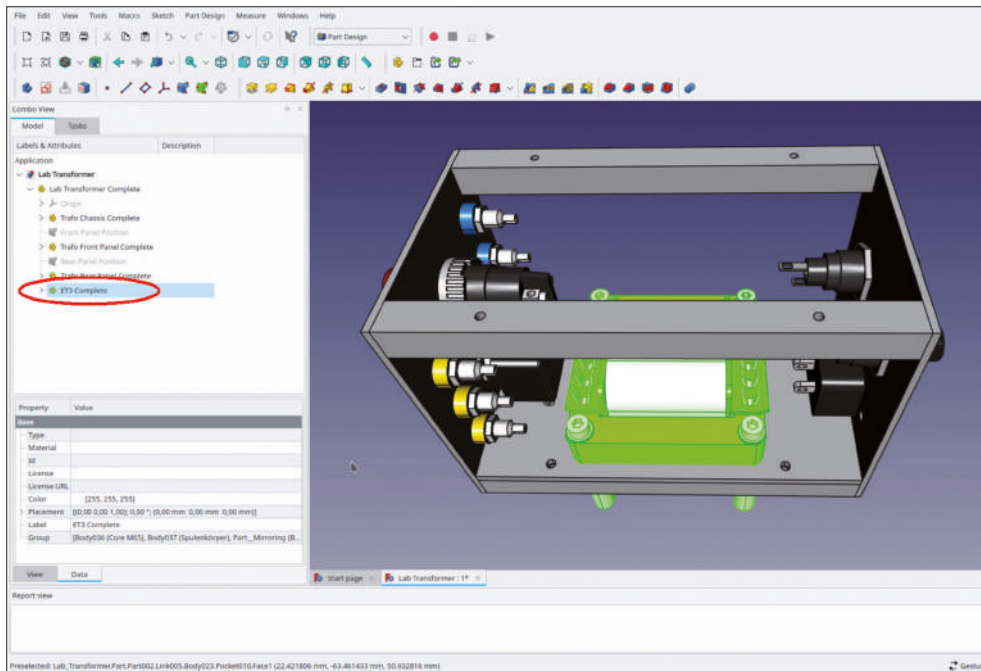

Figure 9-86
21. In the 'Sample Projects | Lab Transformer | Components' directory, locate and open the file 'Engel Transformer ET3.FCStd'. From this file, copy the Std-Part-Container 'ET3 Complete' and paste it into the document 'Lab Transformer' (double-click the destination document, so its title is shown in bold, before you paste, Figure 9-86).
The transformer looks displaced (Figure 9-86). In order to lift it onto the top of the chassis, the placement parameters could simply be adjusted to match. The placement would refer to the whole assembly, and not be associated with the chassis sheet, though. A short consideration provides a shortcut for this special case: In principle, the transformer is a part of the 'Trafo Chassis Complete', because it will bolt to that part. If you drag-and-drop the transformer into that Std-Part-Container, the placement already refers to the chassis, and the intended association is thus provided, except for chassis sheet thickness variations. We take this shortcut here, in the final assembly: